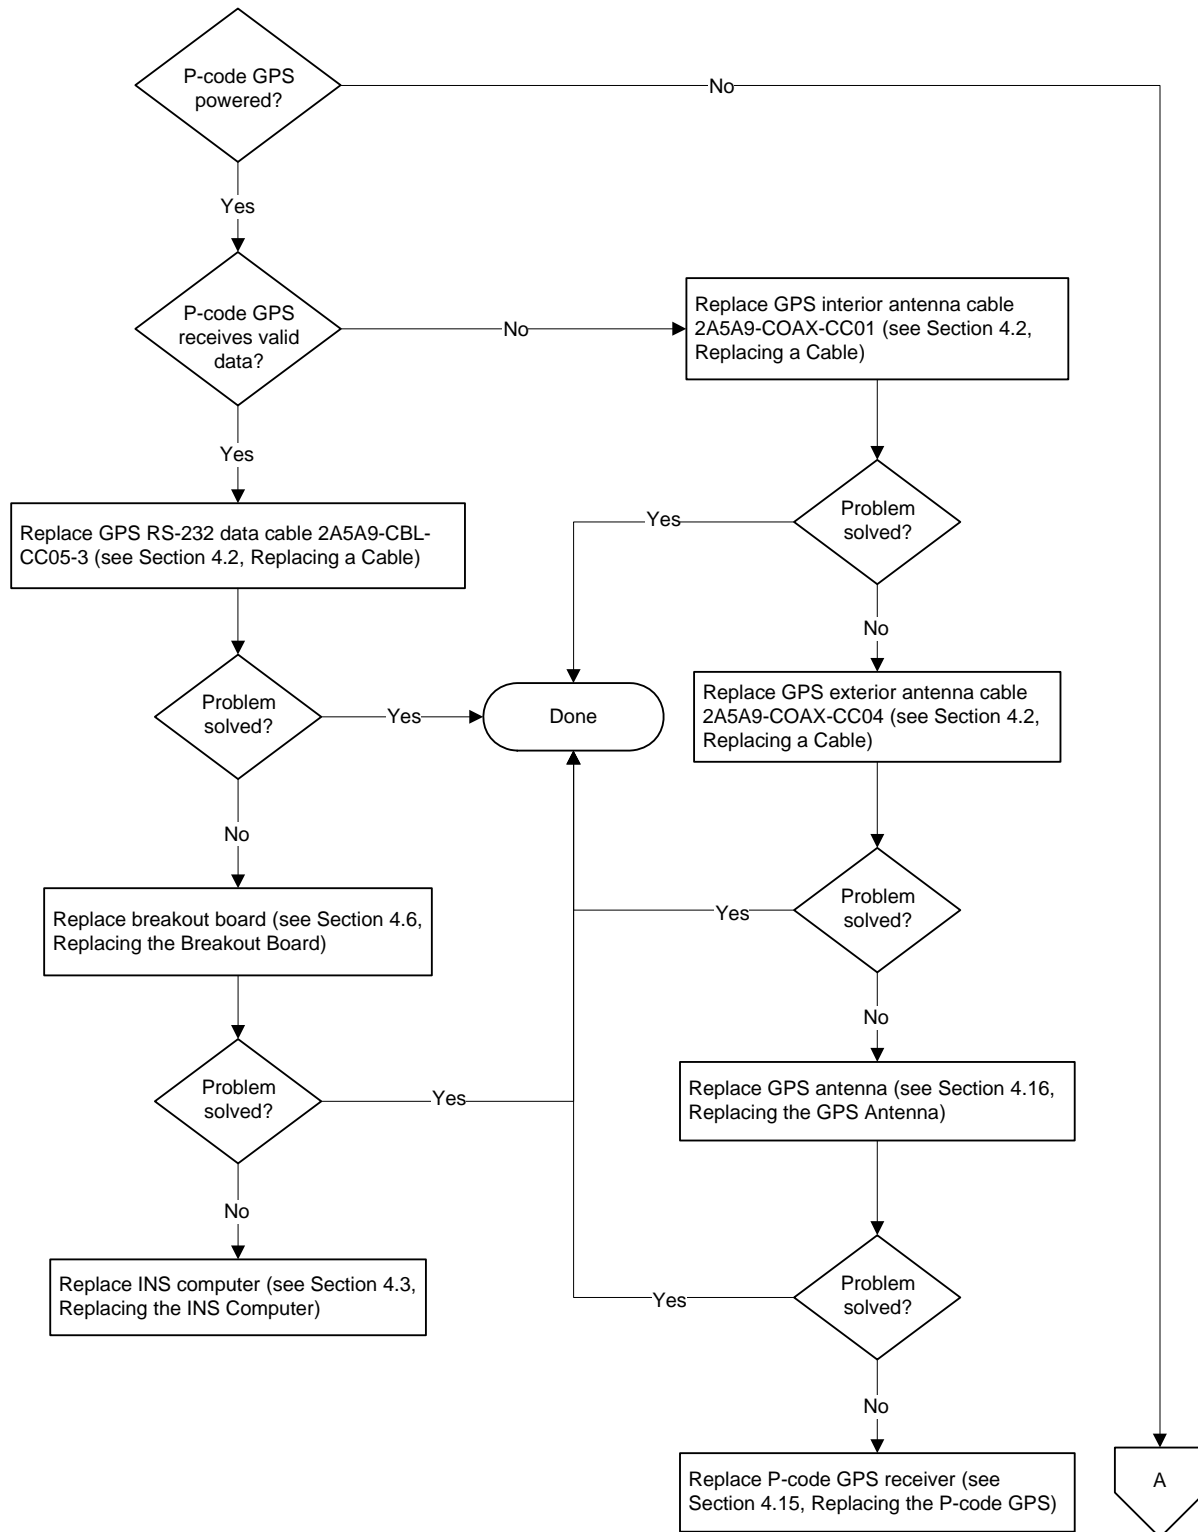
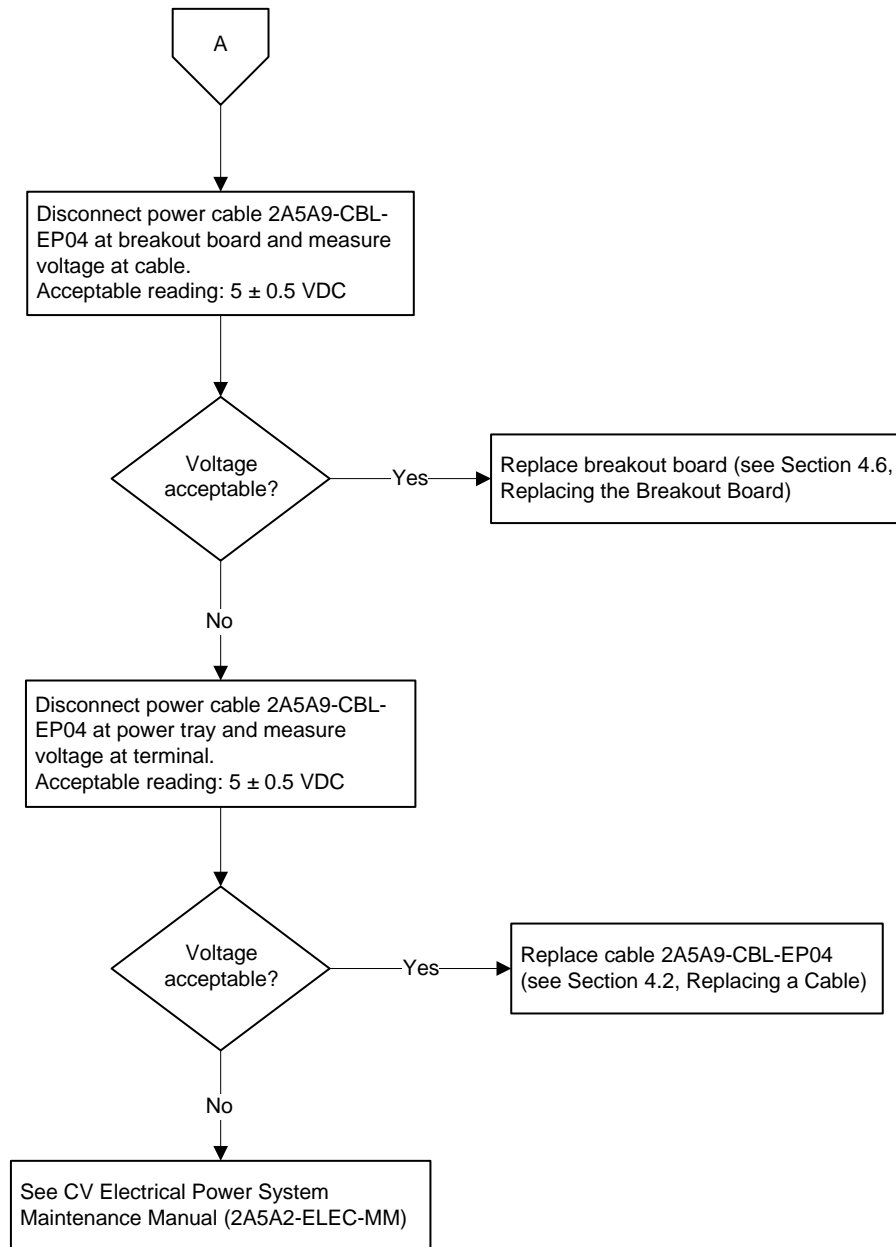

Figure 6 Troubleshooting – INS Computer is not Communicating with P-code GPS – Sheet 1
Figure 7 Troubleshooting – INS Computer is not Communicating with P-code GPS – Sheet 2
1. Follow the troubleshooting steps in Figure 6 and Figure 7.